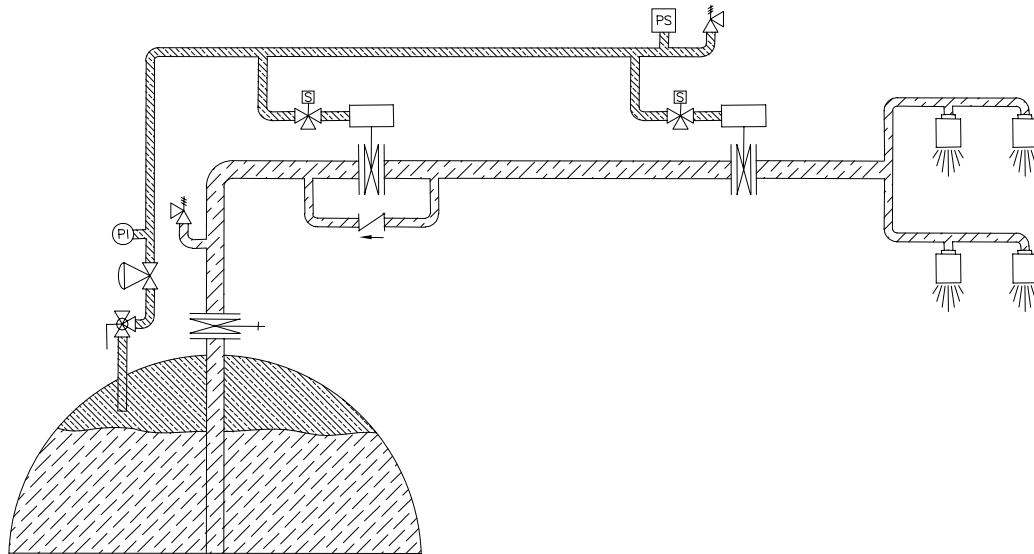

Figure 5-2
- a. When the system is activated by the detectors or a manual release station, the actuation is initiated. Normal system actuation should **always** depend primarily upon the electrical devices to actuate the system to assure proper system operation and the safety of the facility personnel. The control panel energizes the appropriate discharge solenoid valve(s). Vapor pressure flows through the solenoid to the pneumatic operator atop the discharge valve, as shown in figure 5-2. The discharge valve opens allowing liquid CO₂ to flow through the pipe to the discharge nozzles. The discharge will continue until the solenoid release duration setting has expired, then power is removed from the solenoid coil.